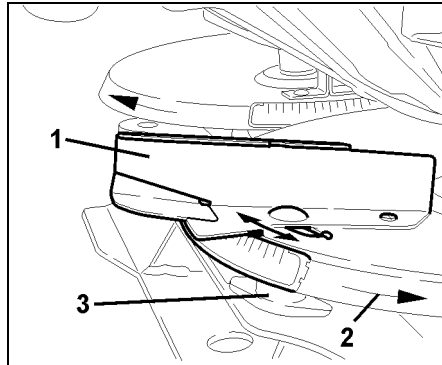

Fig. 64
Take care when fitting the spreading vanes. The open side of the U-shaped spreading vanes (Fig. 64/1) shows in rotating direction (Fig. 64/2).
- Remove thumb nut (Fig. 64/3) and change spreading vane (Fig. 64/1).
- Retighten thumb nut firmly (Fig. 64/3).